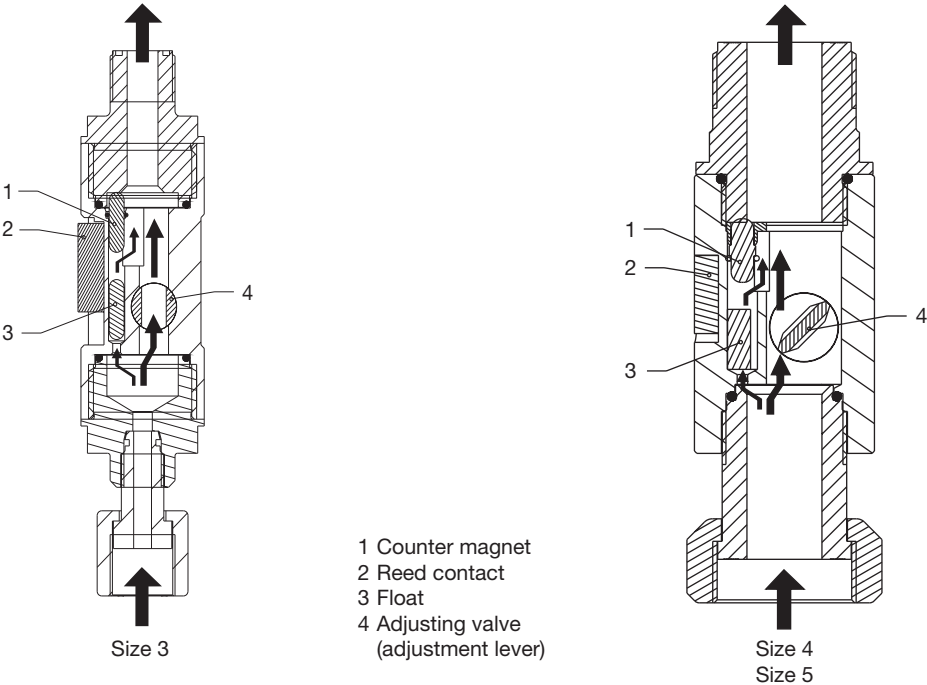

Fig. 1
The “Flow Control” flow monitor comprises essentially a pipe with a float (3) and a bypass with adjustable cross section (see Fig. 1). The Flow Control is adjusted to the lift volume of the pump by varying its cross section with the control lever - its response sensitivity is adapted accordingly.